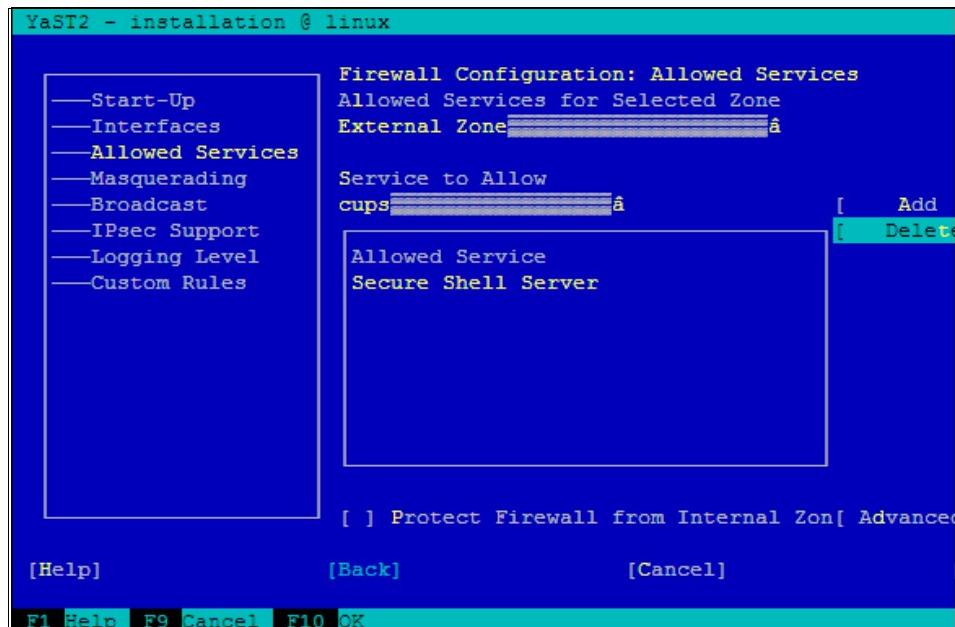

Figure 9-31 Allowed Service Secure Shell Server (SSH)
- e. SSH will appear in the **Allowed Service** list, as shown in Figure 9-31 on page 390. Press [**Next**] to confirm.